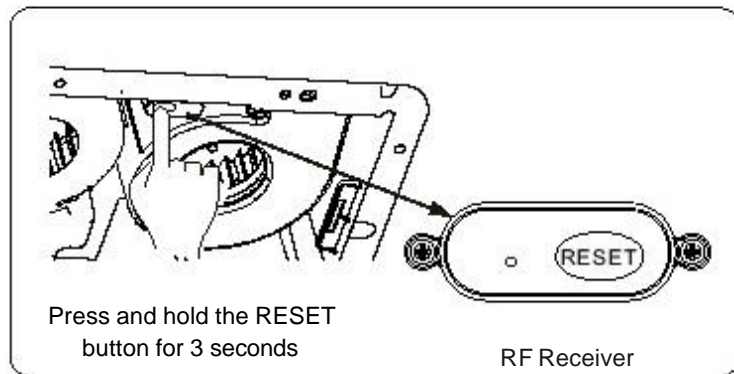

Fig. 1
1. After the Dryer is supplied with power, press and hold the Reset button on the RF receiver for 3 seconds (Fig. 1). When the slowly blinking green light of LED turns into slowly blinking red light, the system enters the ID setting mode (as shown in Fig. 2). (In the setting mode, the operation should be completed within 60 seconds. It is necessary to perform the setting on the remote control within 60 seconds. If the operation is not successfully completed, it will automatically exit the ID setting mode.)